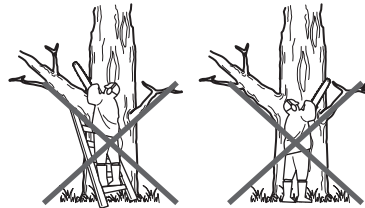

Fig. 34
- > Do not operate the product with your arms fully extended or attempt to saw areas which are difficult to reach, or while on a ladder. Never use the product above shoulder height (Fig. 34).